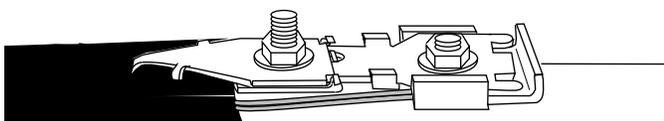

Figure 21
- h) Secure the restraint cap using the supplied nut (Figure 21).